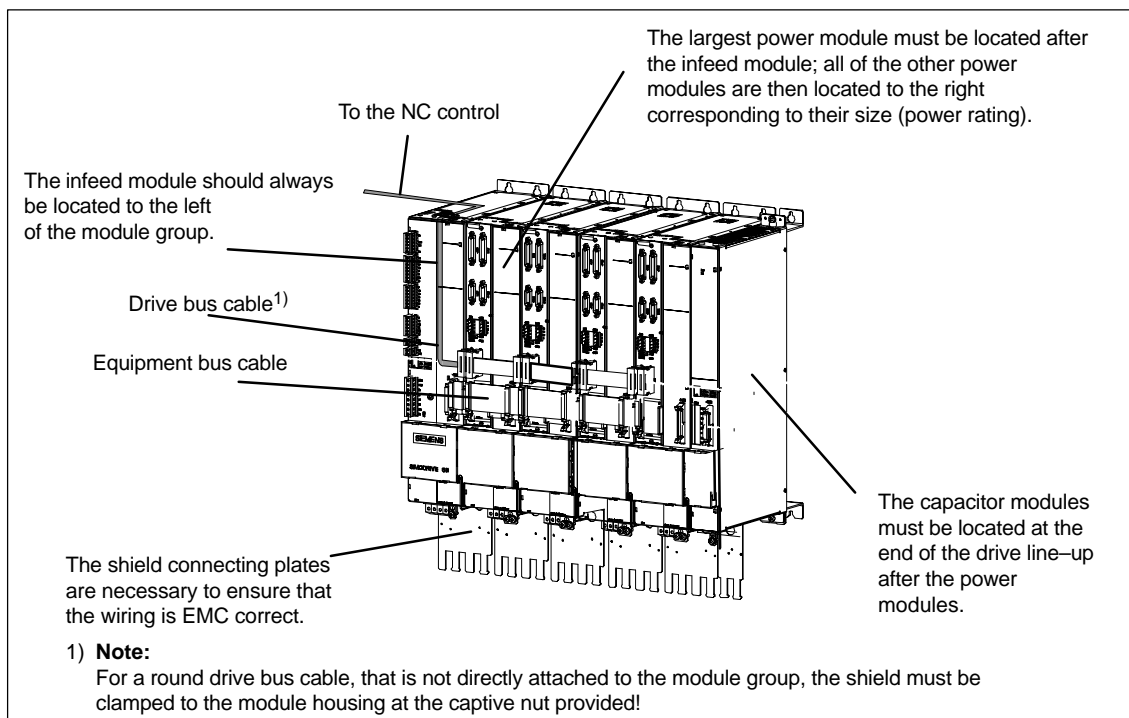

Fig. 2-1 Sample connection
The I/R or UI module is always located to the left of the module group at the beginning. The power modules (PM) are located to the right next to the I/R or UI modules (refer to Fig. 2-1).
For drives with a digital setpoint interface, a drive bus cable is required for the control and communications interface SINUMERIK 840D powerline (refer to Fig. 2-1).
The electronics power supply between the individual modules is established using the equipment bus cable (refer to Fig. 2-1). The equipment bus cable is included in the scope of supply of the power module.